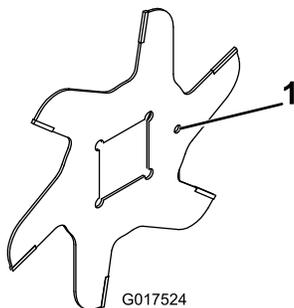

Figure 14
1. Assemble a blade (Figure 14).
4. Install the next blade clockwise so that the index reference hole (Figure 14) is not aligned with the first blade hole by one flat of the shaft.